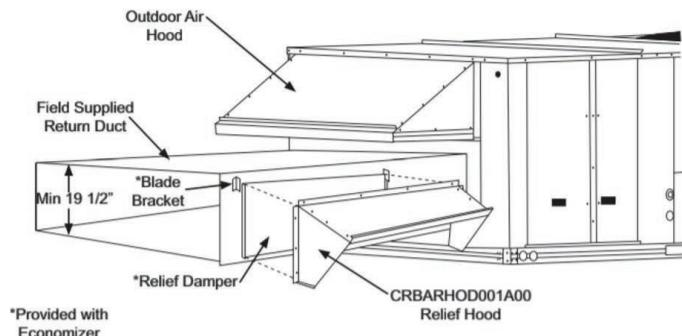

Fig. 32 — Installing CRBARTHOD001A00 Over Relief Damper
4. Using the blade brackets, install the relief damper onto the side of the return duct (see Fig. 32). The two brackets and relief damper are provided with the economizer.
Caulk the backside of the mating flanges to ensure a watertight seal. Install the CRBARTHOD001A00 over the relief damper and screw to the return duct, as illustrated in Fig. 32.